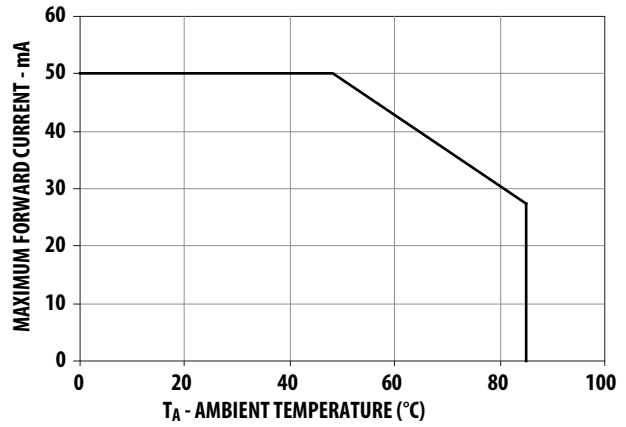
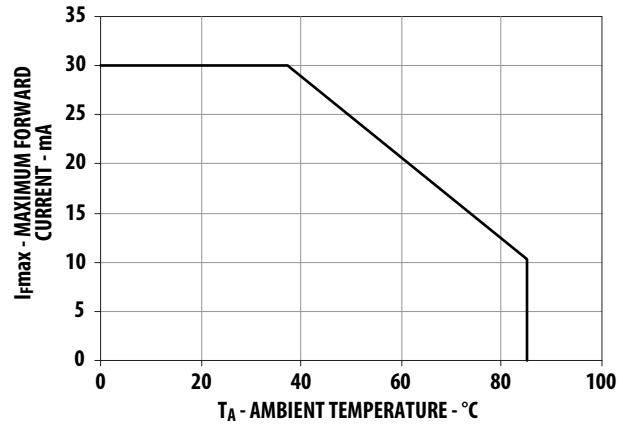

Figure 4. Maximum Forward Current vs Ambient Temperature
Figure 9. Maximum Forward Current vs Ambient Temperature
- Derate linearly as shown in Figure 4 & Figure 9